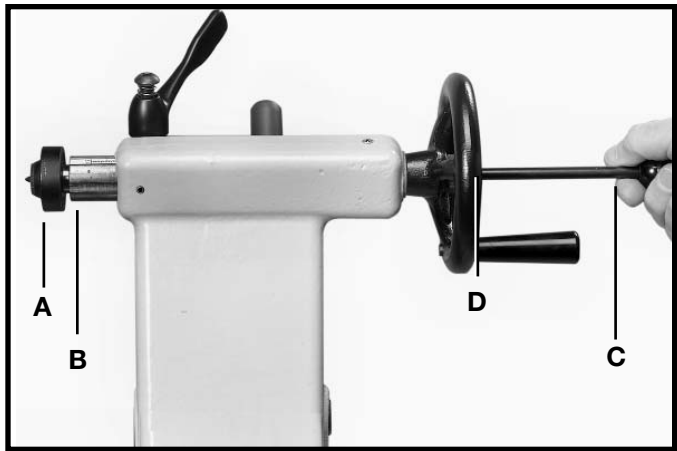

Fig. 14
The tailstock live center (A) Fig. 14, supplied with your lathe, is equipped with a No. 2 Morse Taper shank. **NOTE:** Before inserting the live center, clean both the shank and the inside of the tailstock to remove any grease or debris. To remove the live center (A) from the tailstock spindle (B), use the knockout bar (C) Fig. 14 (supplied) through the hole (D) in the opposite end of the spindle.